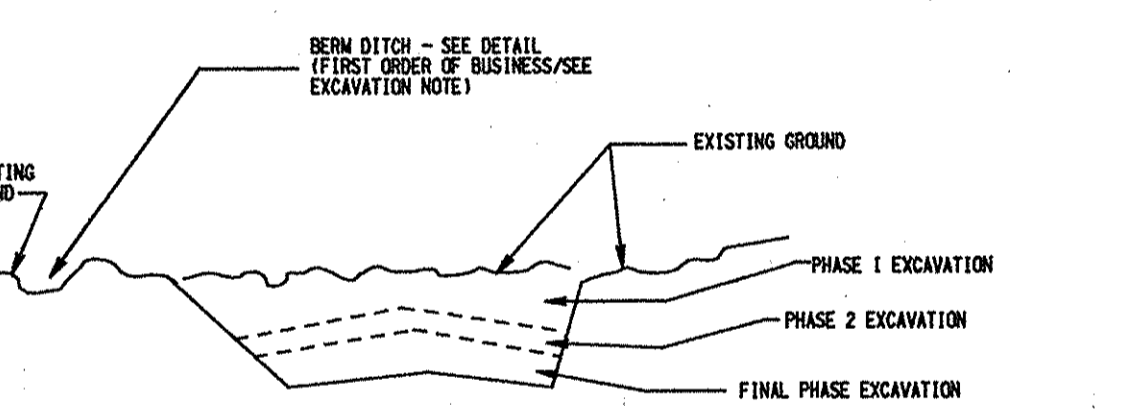

Figure 4 Incremental Stabilization - Cut
2. Construction sequence (Refer to Figure 4 below):